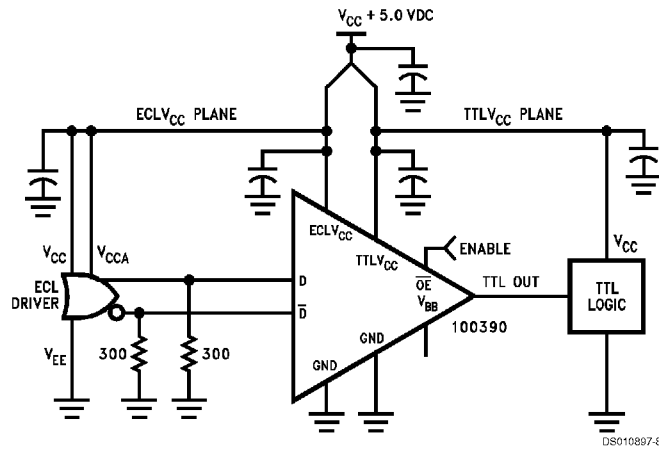

FIGURE 4.
1. Device performance will be enhanced by the use of dual VCC power planes as illustrated in the Application Figures 4, 5. This will minimize the coupling of TTL switching noise into the primary reference to the ECL circuitry and take full advantage of the 100390's on chip VCC partitioning.
6. Figure 4 illustrates typical differential input operation.